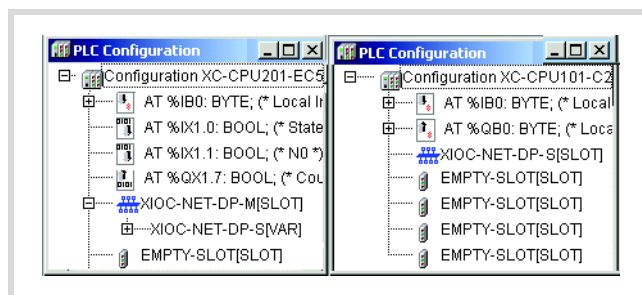

Figure 84: XC200 configuration
- First of all configure the XC200 according to Figure 84.